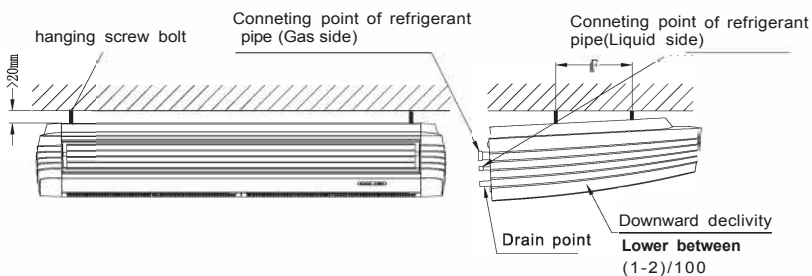

Fig 16
- Hang the unit on the hanging arm by sliding backward. Securely tighten the mounting bolts on both sides(Refer to Fig 16)